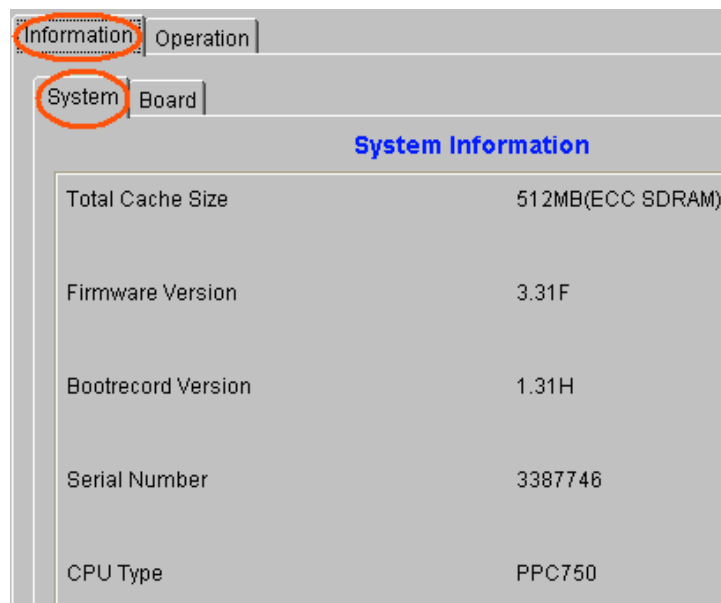

Figure 6-11: System Information
- **System:** Total Cache Size, Firmware Version, Bootrecord Version, Serial Number, CPU Type. Typical system information is shown in *Figure 6-11*.